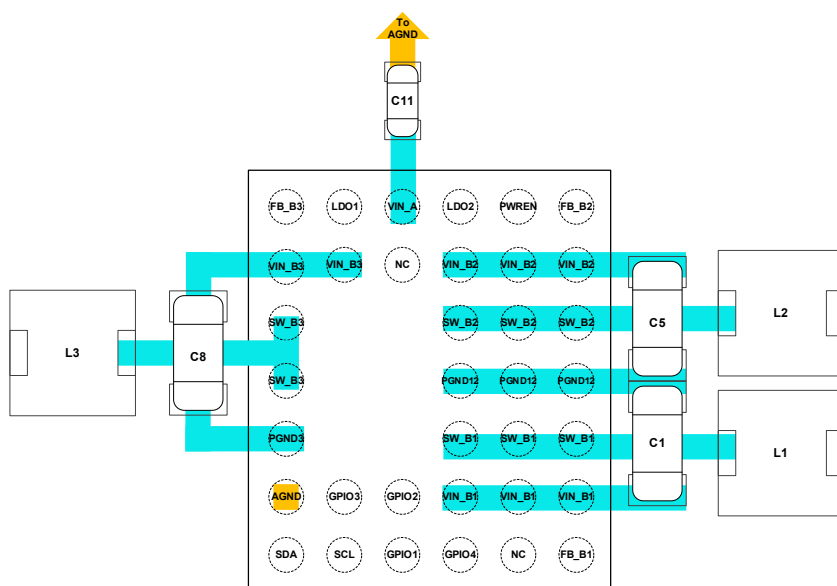

Figure 14. Recommended Layout
8. Figure 14 illustrates the recommended power and signal connections, as well as the routing beneath the IC. For a detailed routing example, refer to the SGM260323 evaluation kit.